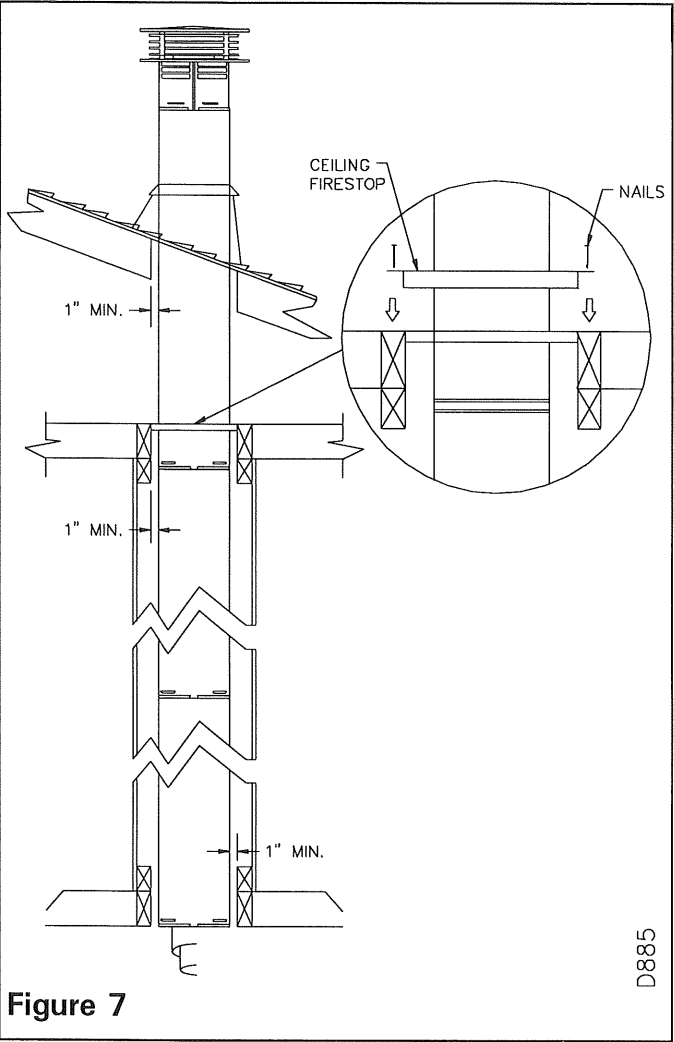

Figure 7
- 5) For vertical termination a roof flashing is require for proper installation **see figure 7.**
The final position of your appliance depends on the location of the vent termination in relation to the clearances that must be observed as shown in figures 7 and 8.
- 3) All pipe clearances must be kept with in minimum requirement or grater see figure 7.